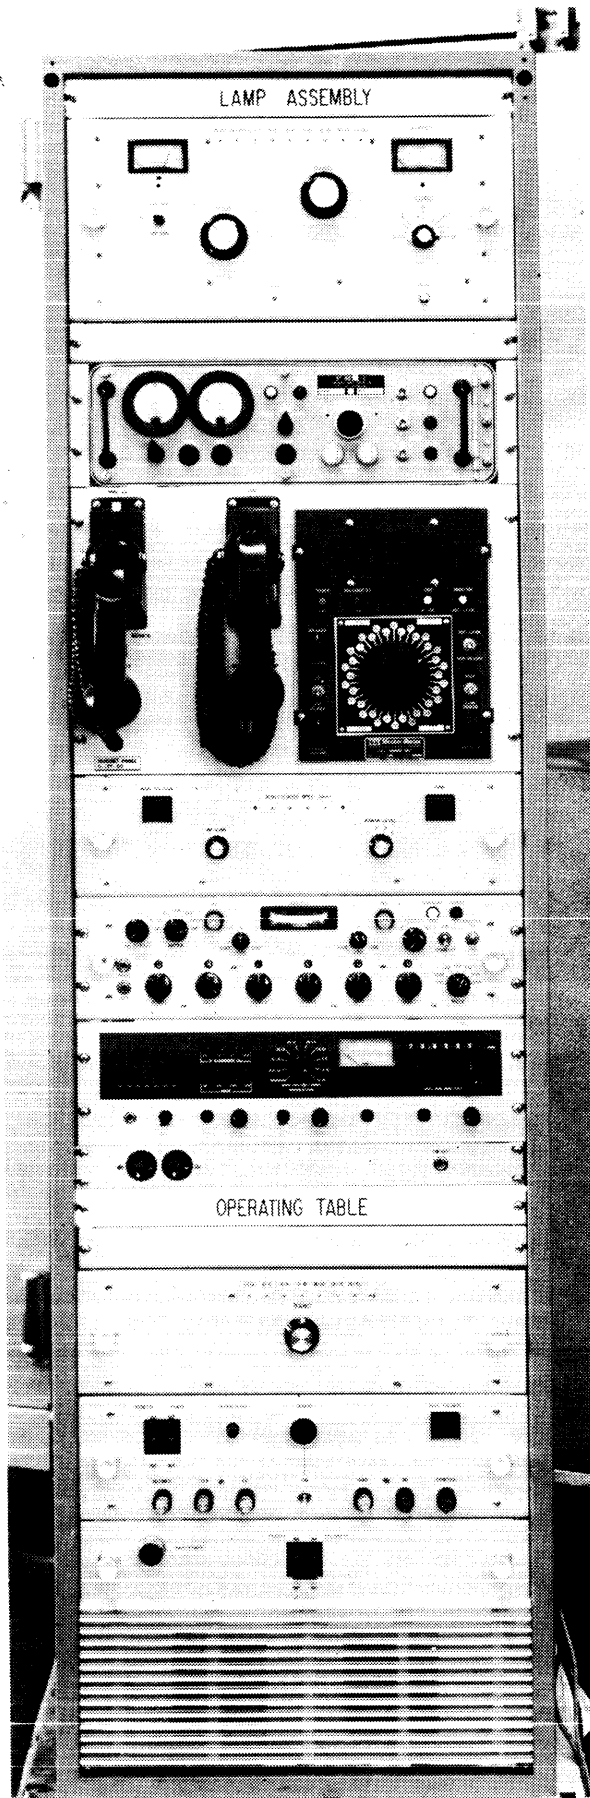

Figure 1-1. MRU-33,
The MRU-33 shown in figure 1-1, is a Marine Radio Unit. The Marine Radio Unit MRU-33, hereinafter referred to as the transmitter, consists of a solid state, multi-mode, exciter MMX(A)-2A, used in conjunction with a high frequency linear power amplifier HFLA-1K, a switchable harmonic filter TFP-1K, and an automatic antenna tuner RF601A. The exciter is capable of providing CW (carrier wave), AM(amplitude modulation), SSB (single sideband) including AME (amplitude modulation equivalent), and FSK (frequency shift keying) modes of operation. The linear power amplifier amplifies the exciter output to provide 1 kilowatt peak envelope power or average power throughout the frequency range of 2.0 to 30 MHz. Power output of the linear amplifier is routed through an automatically switched harmonic filter which further suppresses the harmonic content of the transmitted signal. The harmonically suppressed output signal is applied to the RF601A Antenna Tuning Unit, which operates automatically to match the impedance of a 15, 25, 28 or 35 foot whip antenna to the impedance of a 50 ohm transmission line, at any frequency in the 2.0 to 30 MHz frequency range.
As shown in figures 1-1 and 1-2, the transmitter consists of a single equipment rack, which houses all of the transmitter components. The HFLA-1K portion of the transmitter consists of four individual units: (1) TLAA-1K, a three state linear power amplifier, (2) AP-151, a low voltage and bias supply, (3) AP-152, a high voltage power supply, and (4) AX-5130, a unit which contains all of the control and sensing circuitry for automatic tuning of the transmitter.